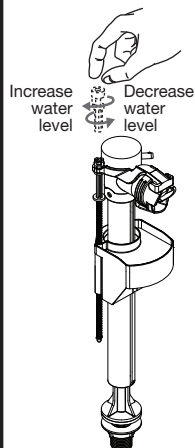

Fig. 6
- 4- Adjusting water level. Turn on water mains. Open the cistern stop valve and check the operation of the mechanisms and valve. Adjust water level to the water level mark inside the cistern by simply turning the float arm adjustment screw in a clockwise or anticlockwise direction as detailed in Fig. 6.